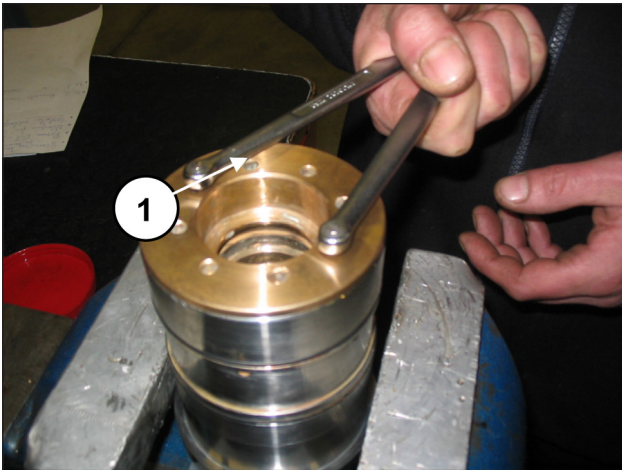
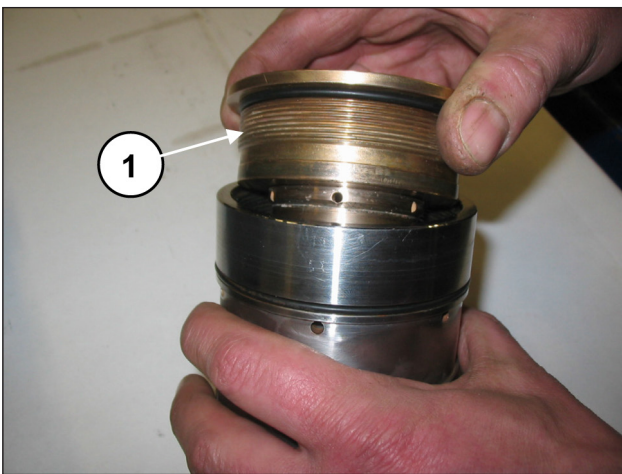

Fig. 145
Fig. 146
Separate the gasket support from the liner by using a compass spanner with $\varnothing 5$ round ends, available on the market (pos. ①, Fig. 145) and unscrew the support until it is completely removed (pos. ①, Fig. 146).